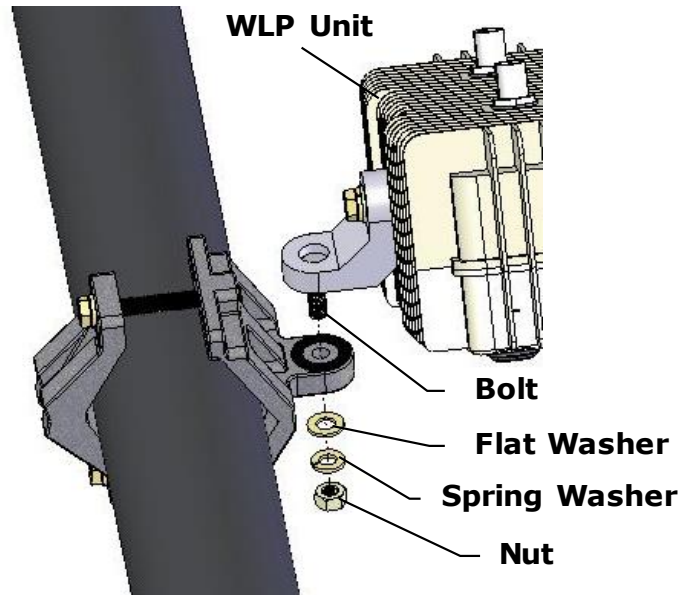

Figure 4: MBW 1100 (WLP) Unit Mounting
1. After assembling the brackets, mount the MBW 1100 (WLP) unit on to the bracket as shown in Figure 4. Use a flat washer [F], a spring washer [G] and a nut [H].